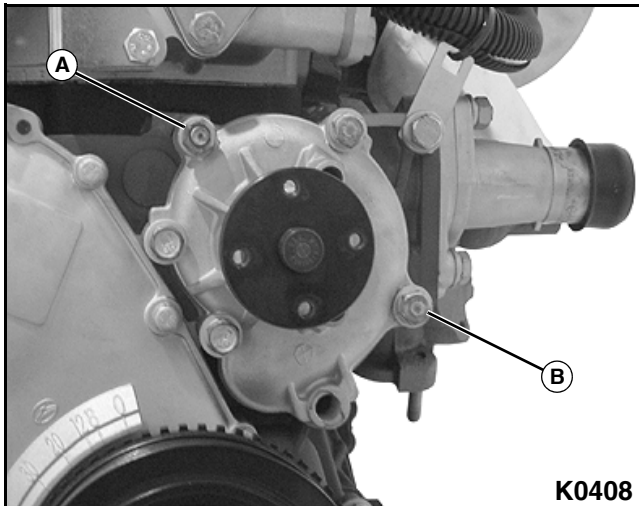

Figure 3-5
4. Install water pump mounting nut, lock washer, and flat washer (A) to water pump. Do not tighten at this time. **See Figure 3-5.**
5. Install four water pump mounting bolts, lock washers, and flat washers (B) to water pump as noted during removal. Torque mounting bolts and nut to specification.